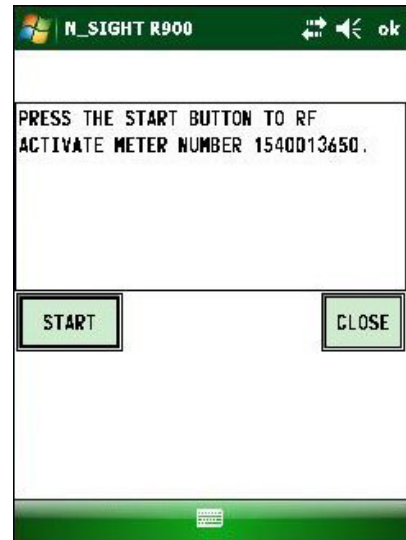

Figure 7.26 RF-Activate Meter Screen
- 9 Click **START** to initiate RF-activated data logging. See Figure 7.26.